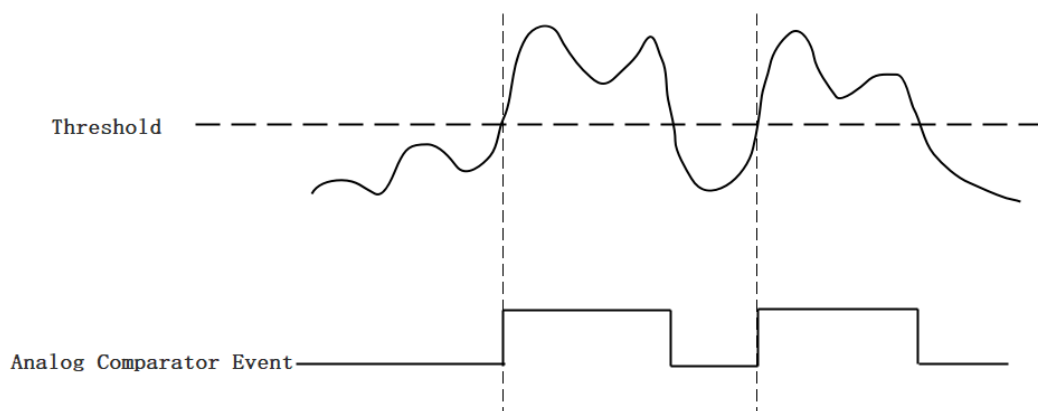

Figure 15 Rising Slope Trigger
*Rising Slope Trigger*: The Edge comparator output is high when the signal goes above the threshold; the output is low when the signal goes below the threshold as shown in Figure 15.